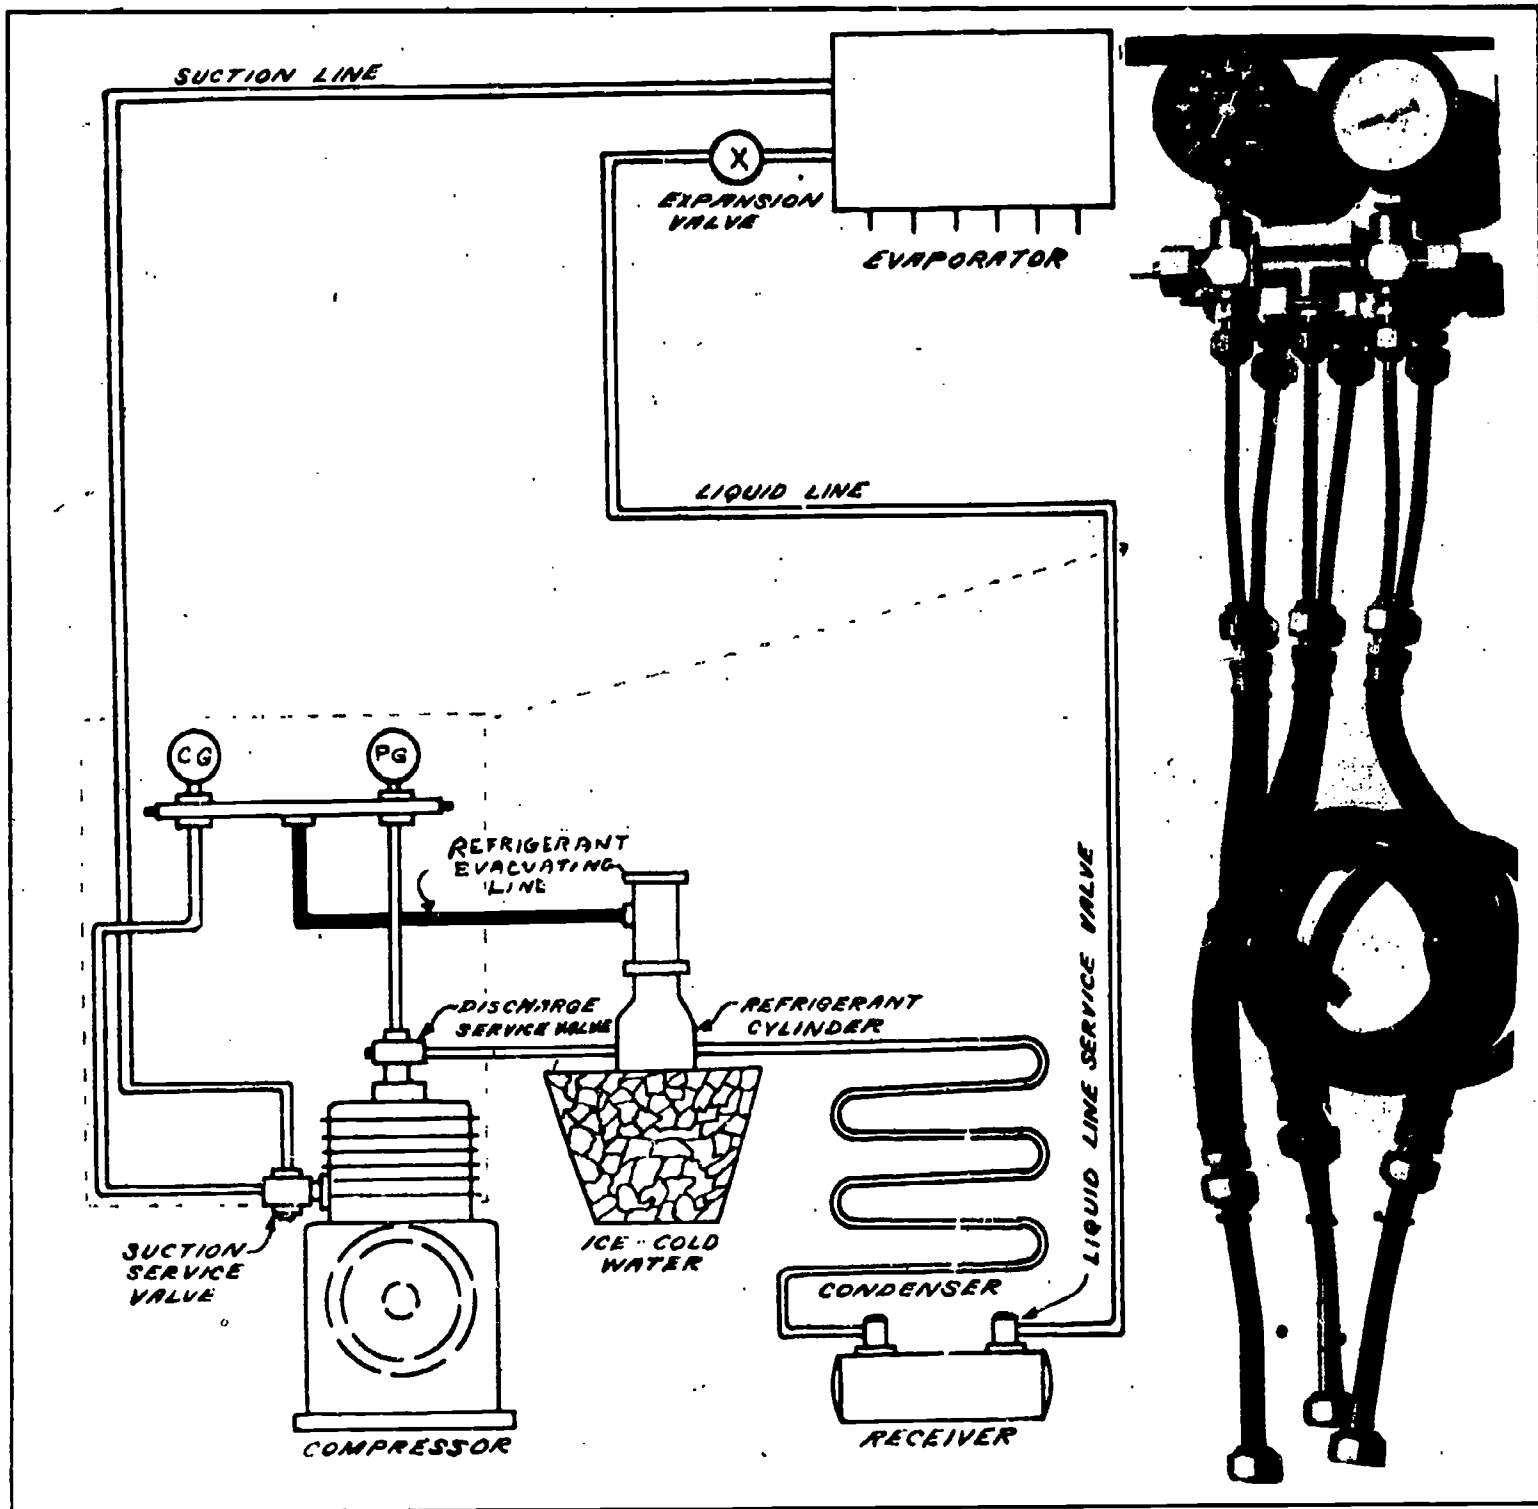

Fig 3-14. Evacuation by using the unit's compressor.
a. **Installing the bar gage manifold.** The purpose of the bar gage manifold is to allow you to observe both low- and high-side operating pressures at the same time. It also permits charging, evacuating, adding oil, and purging of noncondensable gas with comparative ease. It is most important that the bar gage manifold be installed carefully and correctly. If it isn't, air may enter the system and leaks may occur. The following is the proper procedure for installing the bar gage manifold. (Refer to figure 3-14 for picture of the bar gage manifold.)
- (1) Backseat the suction and the discharge service valves.
- (2) Remove the caps from the gage ports.
- (3) Connect the pressure gage line from the bar gage manifold to the discharge service valve gage port. Tighten the hose connections.
- (4) Connect the compound gage line from the bar gage manifold to the suction service valve gage port. Leave the hose connection loose.
- (5) Make sure that the center charge port on the bar gage manifold is capped tightly.
- (6) Open the compound and pressure gage valves on the bar gage manifold 2 complete turns off their seats. (Turn the handles counterclockwise.)
- (7) Crack the discharge service valve off its backseat, allowing the refrigerant to push air out through the loose hose connection on the suction service valve; then, tighten the hose connection on the suction service valve.
(8) Close the compound and pressure gage valves on the bar gage manifold.
(9) Crack the suction service valve off its backseat.
(10) Observe the pressures.
(1) Evacuating by using the unit's compressor (fig 3-14). To evacuate by using the unit's compressor, you should:
- (o) Close the pressure gage valve and stop the unit. **Warning:** If any part is to be removed or opened for repair, make sure that the unit is not in a vacuum (below 0 psig). Figure 3-14 illustrates evacuation by using the compressor.